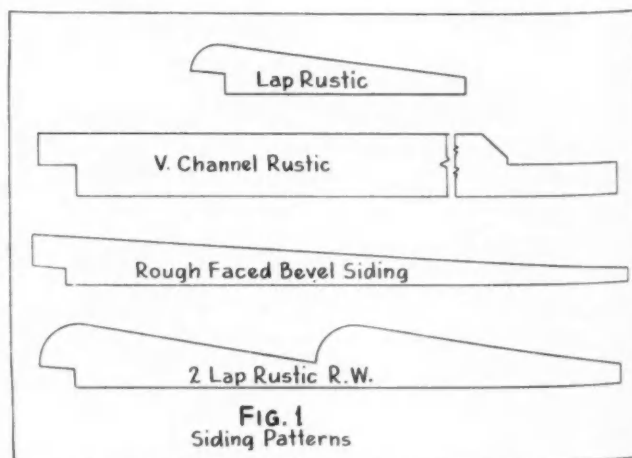

FIGURE 1: Some of the more commonly used siding patterns.
**SIDING:** Siding is finish lumber nailed horizontally on the exterior of a frame building. Sometimes it is called rustic, ship lap, channel rustic, beveled siding, novelty siding, etc., each term being applied to some special shape of material. Figure 1 shows some of the more commonly used patterns.